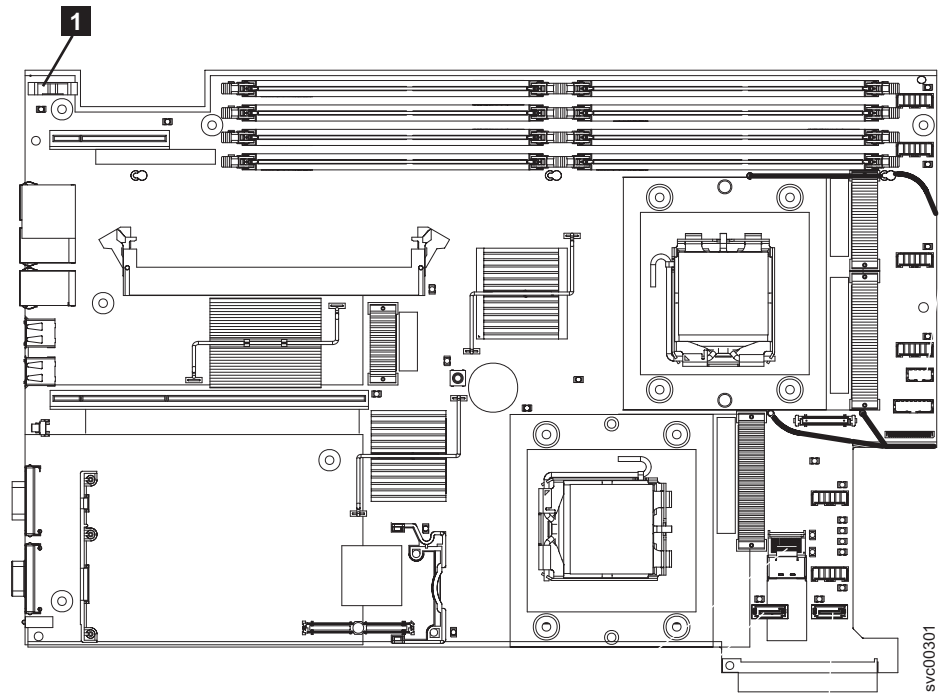

Figure 122. Location of SAN Volume Controller 2145-8G4 CMOS battery holder
2. Locate the battery on the system board. Figure 122 shows the location (**1**) of the battery.